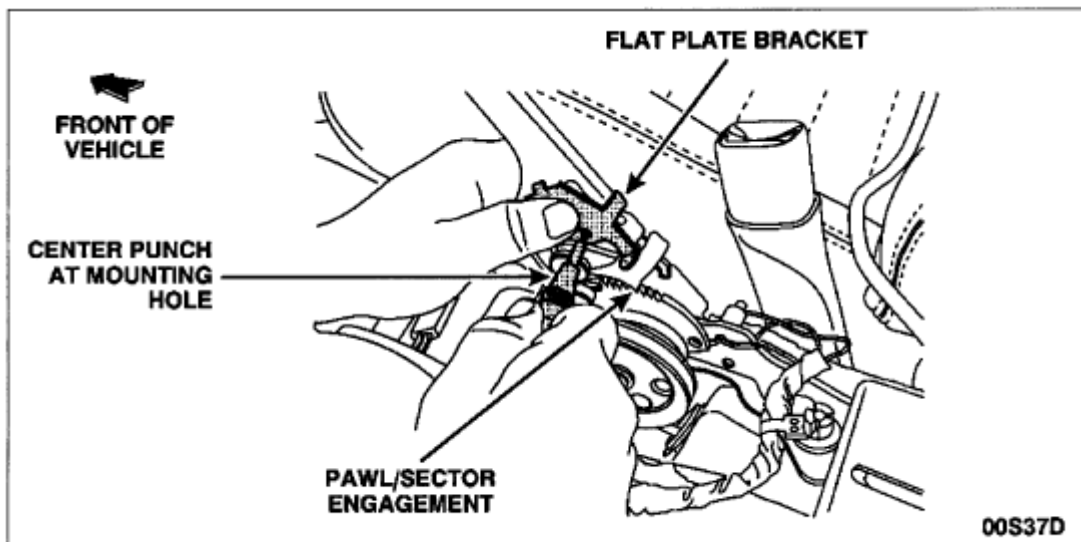

FIGURE 4
8. On 2001 model year vehicles, be sure to apply parking brake (lever in the upward position). Make sure the self-adjust pawl is fully engaged in the sector, then position the flat plate bracket on the parking brake control assembly as shown in the illustration. Center punch the side of the control assembly at the center of the bracket mounting hole. See Figure 4.